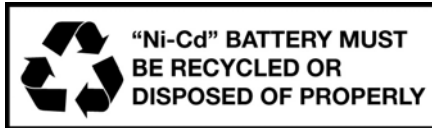

Fig. 5
- Carefully lift out the battery pack and disconnect the wire terminals by pulling apart the wire terminal connectors. Remove the battery pack from the unit. (Fig. 5)